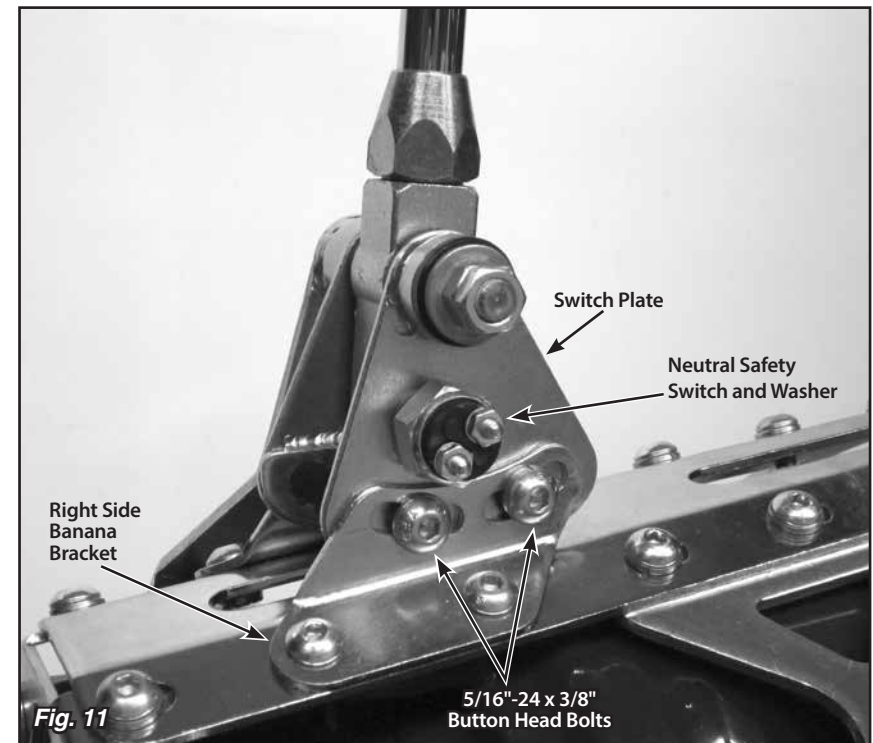

Fig. 11
Step 17: Remove the neutral safety switch and washer from the switch plate on the **right** side of the shifter using a 7/8" wrench or socket. **Fig. 11**
Step 18: Loosen, but do not remove, the two 5/16"-24 x 3/8" button head bolts that attach the switch plate to the right side banana bracket (the bolts are in curved, slotted holes). **Fig. 11**